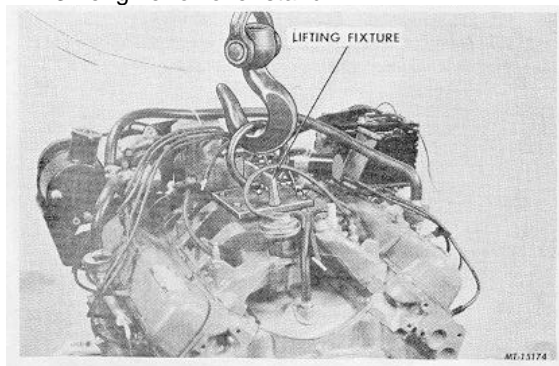

Fig. 6 Engine Lifting Sling
10. Disconnect the wiring harness, Fig. 6, on the alternator, also the wires at the coil and the temperature indicator wire at the sender unit located at the front of the intake manifold.
21. Remove the carburetor from the intake manifold and install the lifting fixture, SE1948, to intake manifold, utilizing the carburetor mounting capscrews, Fig. 6.